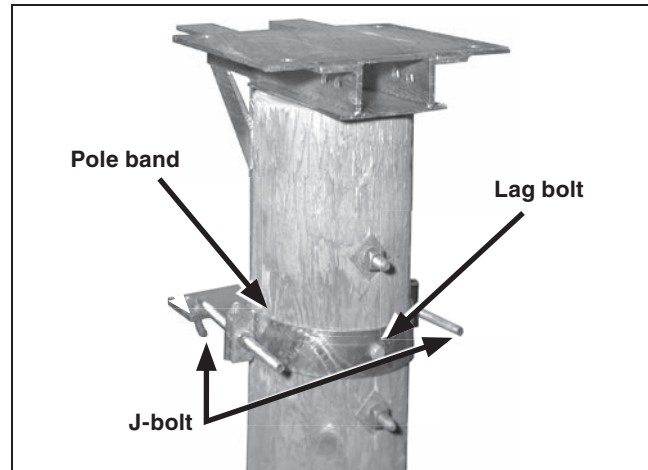

Figure 12. Attach pole band.
**STEP 9.** Attach the pole band to the switch-mounting bracket using the J-bolts furnished. Use a stiffening block under each nut. See Figure 12.